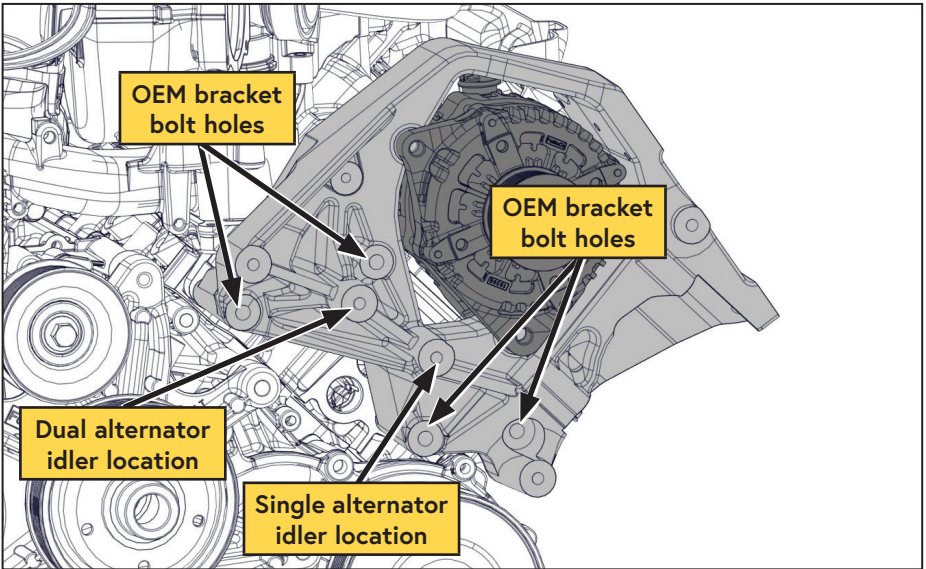

Figure 48 — Installing the OEM idler
- ☐ Install the retained rubber bushings onto the (x4) OEM fasteners and mount the bracket onto the engine. The VMAC bracket uses the same mount location as the OEM bracket (Figure 48).